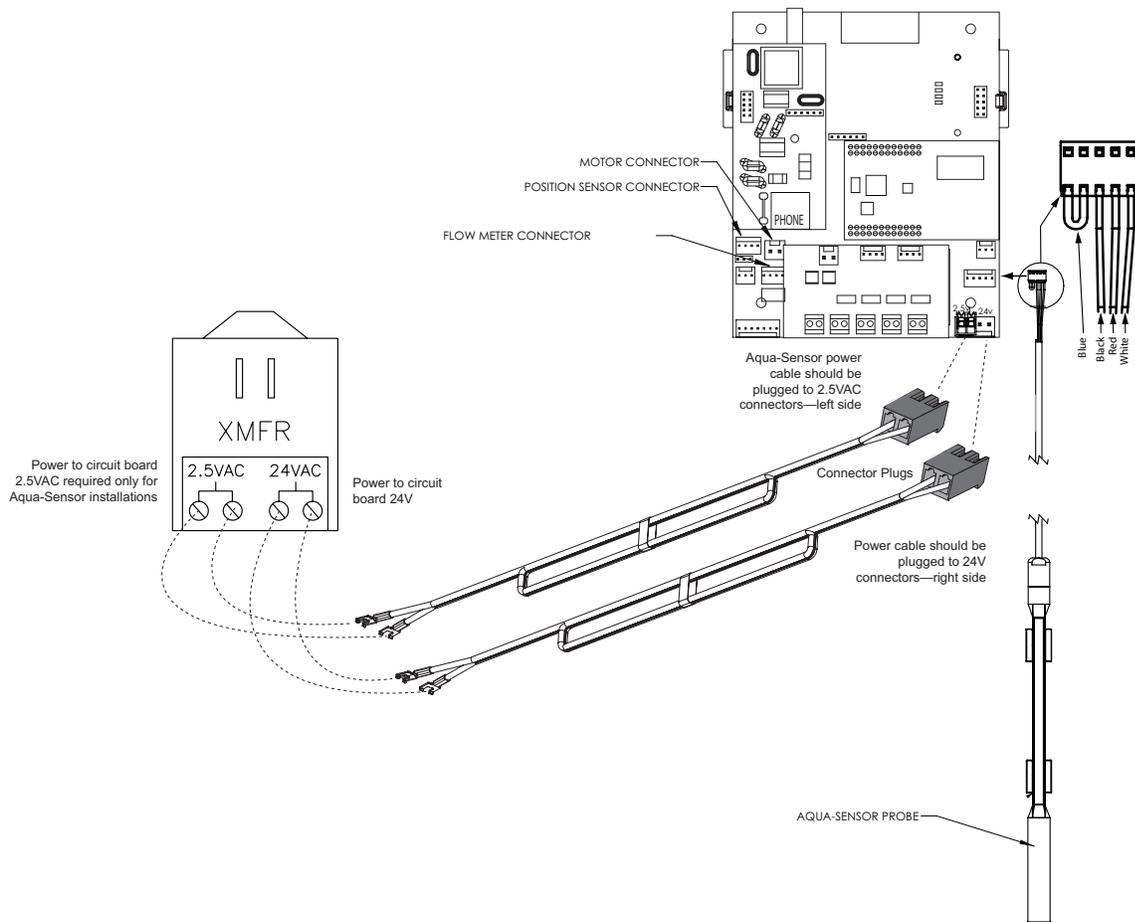

Figure 26. Transformer-circuit board power connection.
12. Plug each power connector to the appropriate pin on the Smart Controller circuit board. See Figure 26.
13. Connect the other end of the power cord, with the spade terminals, to the two 2.5VAC terminals on the transformer. See Figure 26.
16. Connect the Aqua-Sensor probe wire harness bushing to the circuit board. The Aqua-Sensor probe terminal is labeled "Aqua-Sensor." See Figure 26.